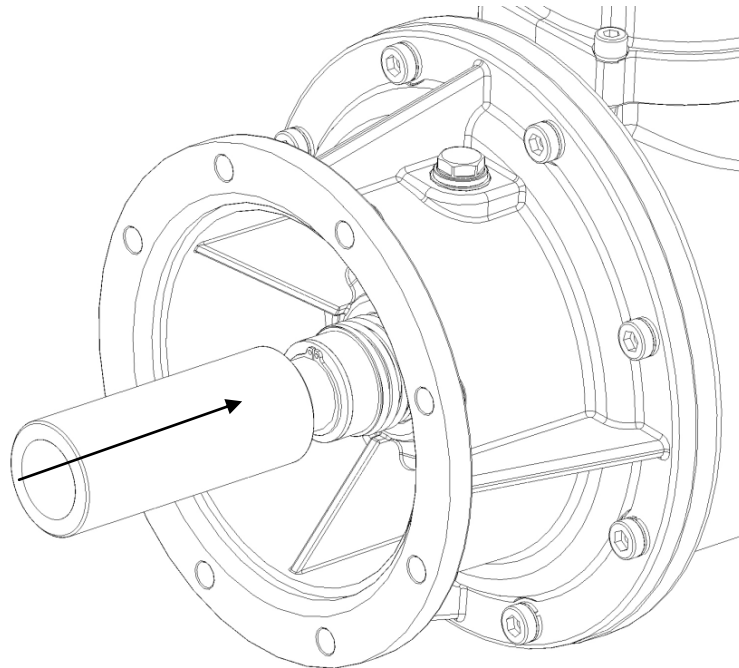

Figure 24: Installation of MG 12/30 in oil reservoir
- Press on the circlip with the mounting sleeve, and with the supporting washer, tension the spring of the mechanical seal until you can hear clicking of the circlip in the groove (figure 24).